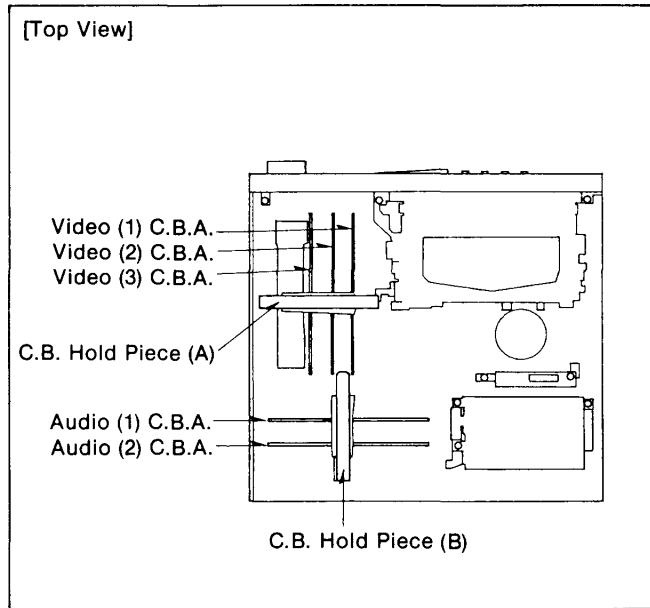
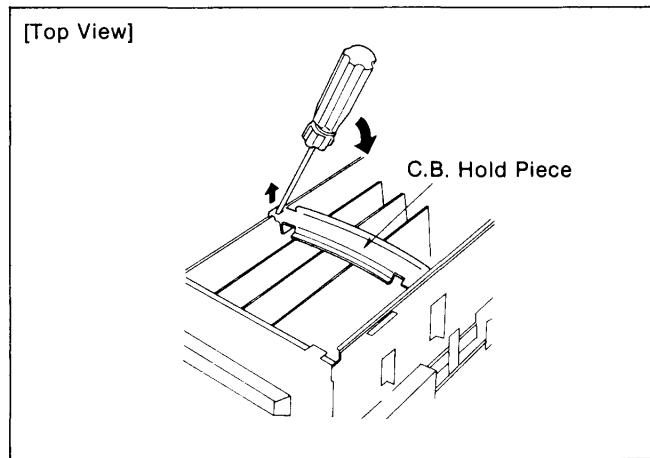

Figure D18
Figure D19
1. Open the C.B. Hold Piece (A) and (B) from unit by minus driver or the same (Figure D18 and Figure D19).
1. Open the C.B. Hold Piece (A) as shown in Figure D18.
2. Carefully pull out the Video (1) C.B.A., Video (2) C.B.A. and Video (3) C.B.A. from Mother C.B.A.
1. Open the C.B. Hold Piece (B) as shown in Figure D18.
2. Carefully pull out the Audio (1) C.B.A. and Audio (2) C.B.A. from Mother C.B.A.